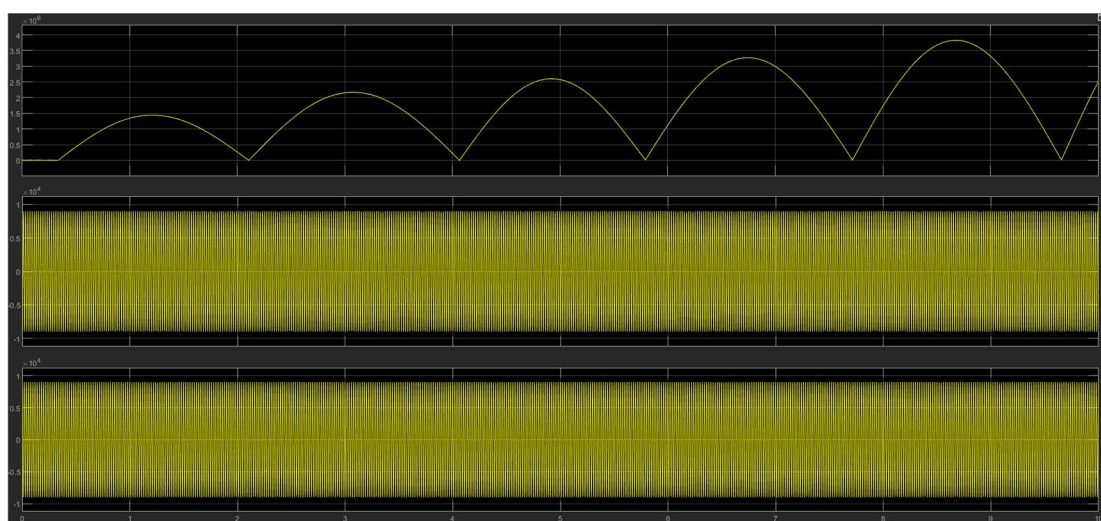
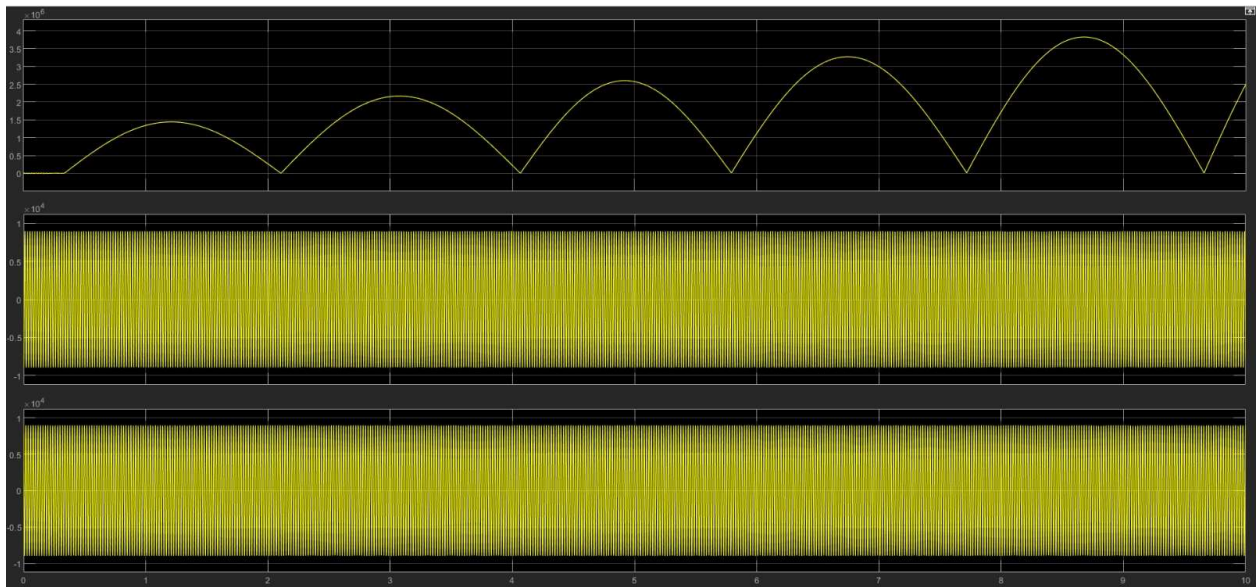

Figure 04: voltage output from scope
Figure 05: Current output from scope 1
- b) In Figure 04 the voltages of phases B and C are not affected by the fault but the voltage in phase A is and its waveform changes. In Figure 05 the currents in phases B and C stay normal but the current in phase A is affected and its waveform changes.
- c) In this case only phase A is affected and the voltages and currents in phases B and C remain unchanged. Normally during a fault current should increase and voltages should decrease. In Figures 04 and 05 the voltage and current waveforms look similar.